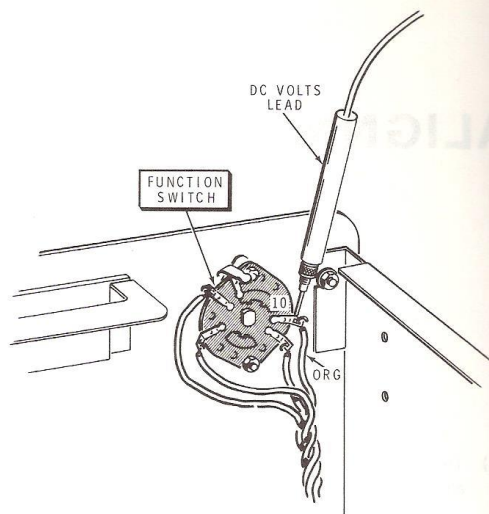

Figure 6
- () Refer to Figure 6 and touch or connect the meter dc volts lead to lug 10 of the FUNCTION switch. This lug has an orange wire connected to it.